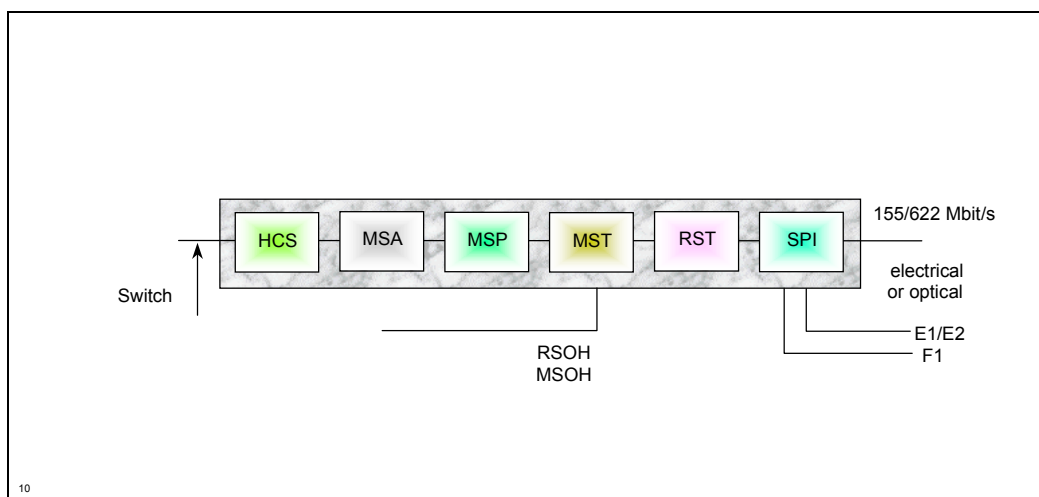

Figure 10: STM1 Interface
- 2 Mbit/s signal multiplexing (Fig.10),